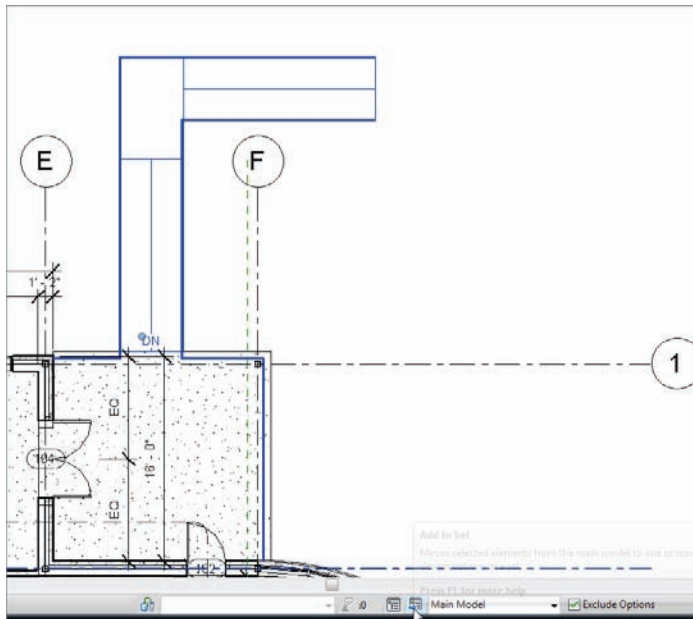

FIGURE 21.11 Adding to a set
13. Select both the ramp and the railing, as shown in Figure 21.11.
14. Click the Add to Set button at the bottom of the Revit window (see Figure 21.11).
15. Deselect the Straight Ramp, and click OK. (See Figure 21.11.)